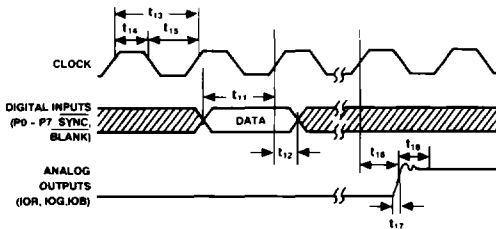

Figure 2. Video Input/Output Timing
- ¹TTL input values are 0 to 3 volts, with input rise/fall times $\approx 3\text{ ns}$, measured between the 10% and 90% points. Timing reference points at 50% for inputs and outputs. Analog output load $\approx 10\text{ pF}$. D0-D7 output load $\approx 50\text{ pF}$. See timing notes in Figure 2.